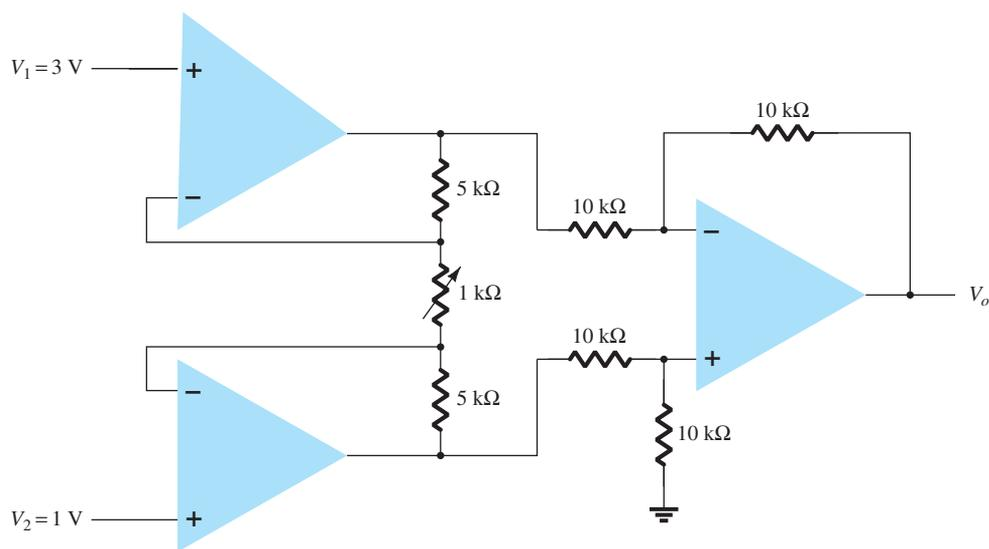

FIG. 11.56
*14. Calculate V_o in the circuit of Fig. 11.56.